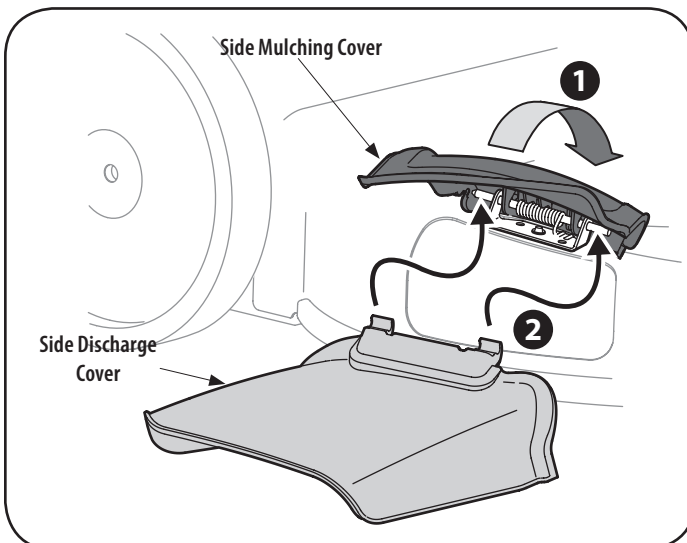

Figure 9
1. On the side of the mower, lift the mulching cover. See Figure 9.
2. Slide two hooks of side discharge cover under hinge pin on mulching cover assembly. See Figure 9. Lower mulching cover. Do not remove side mulching cover at any time, even when you are not mulching.